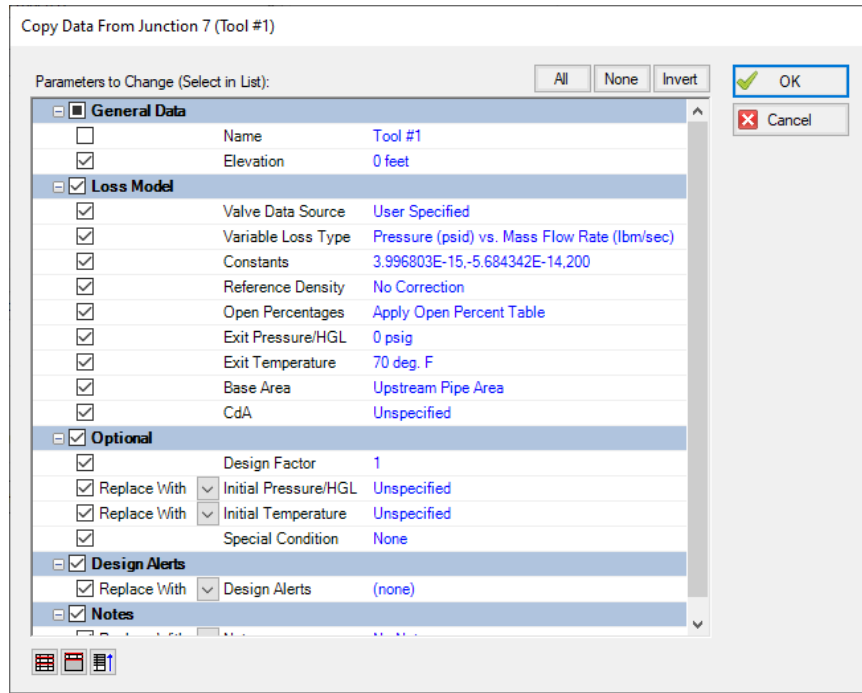

Figure 3.7 The Copy Data From Junction window allows you to copy selected data from one junction to another
1. For the J8 Valve, open the Valve Properties window, and select J7 (Tool #1) from the Copy Data From Jct list. This will open the Copy Data From Junction window. Click the All button. This will mark all of the properties for J8 to be set the same as the properties for J7. Since you want the J8 tool to retain its unique name, click on the check box next to the Name parameter to deselect it (see Figure 3.7). Click the OK button. J8 now has all of the same properties as J7, with the exception of its name.